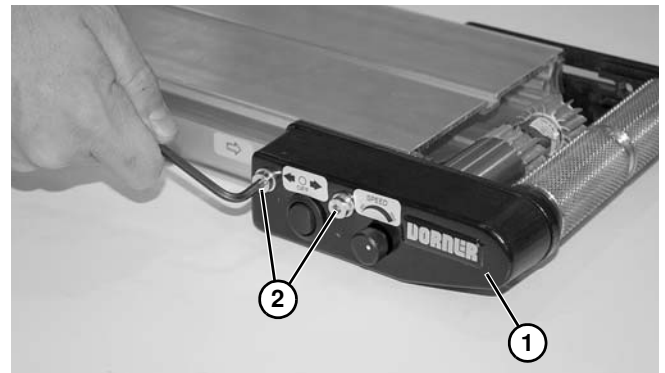

Figure 125
2. Remove inframe drive side cover (**Figure 125, item 1**) by removing two head plate fastening screws (**Figure 125, item 2**).